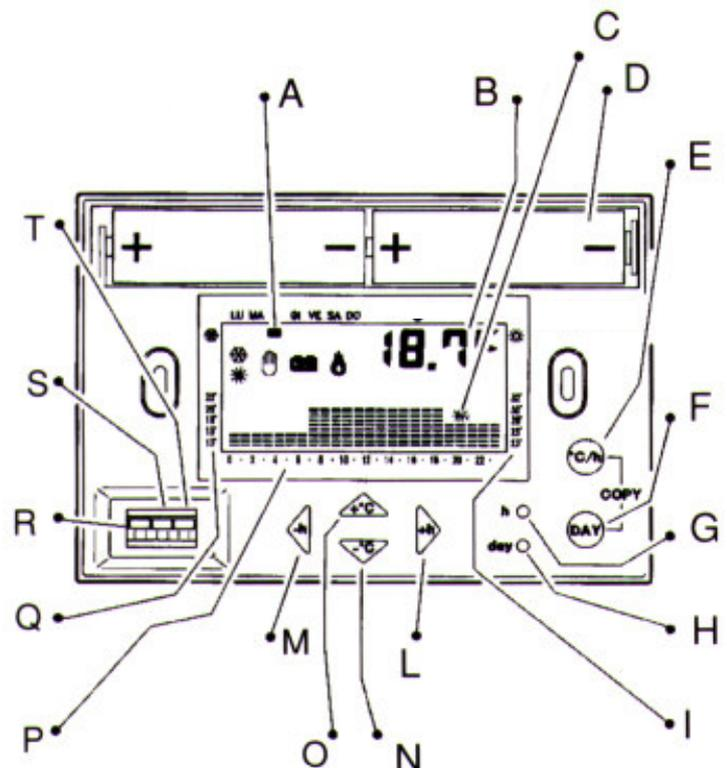

Fig.3
The chronothermostat is provided with two battery run-down thresholds. When the first threshold is overcome, the symbol **BAT** (fig.3) will appear while the appliance will carry on working as usual. When the second threshold is reached, the chronothermostat completely stops its thermoregulation functions while the display will only show the time, the day and the battery run-down symbol (**BAT**) flashing. During the battery changing operation, data will be kept stored for 10 minutes with the power off.
The main feature of this appliance is the graphic display which shows a diagram comprising 24 columns representing the hours of the day; each column height indicates the temperature programmed for that particular hour. The segment at the top on the left (A in fig.3) moves along the writing directly above to indicate the day concerned by the program. The programmed temperature is displayed at the top on the right (B in fig.3) during programming; while the time and ambient temperature are displayed alternatively by pressing the key °Ch (E in fig.3) during normal operation.
Once the chronothermostat has been correctly installed and powered, switch the selectors (R, S, T in fig.3) to **ON** (activated), **AUT** (automatic operation) and the right season (**WIN** for winter and **SUM** for summer).
To modify the standard program, use the **DAY** key (*F* in fig.3) to move along to the right day and change the daily display using the four centre keys forming a cross; two of these (*L*, *M* in fig.3) move the cursor horizontally along the hour axis, whereas the other two (*N*, *O* in fig.3) vary the set temperature (shown on the numerical display).
- Press the **DAY** key (*F* in fig.3) to move on to the following day and display the stored program (if there is none, the standard display will be shown) which can be modified as previously described.
- Copy the day just programmed into the following one using the **COPY** function (*E* and *F* keys in fig.3 pressed at the same time).
After programming the whole week, you only need to set the hour and the day by pressing the two **h** and **day** hideaway keys (*G* and *H* in fig.3), which can be done with the help of a pointed instrument. The minimal increment of the hour is of a minute to every pressure of the key **h**. Keeping pressed the key **h** the increment becomes of **10 minutes** after at least ten increments of a minute.
From this moment on the chronothermostat starts working regularly and indicates each load input (heating or air conditioning) by lighting the flame symbol on the display (fig.3).
When the *T* selector in the fig.3 is moved to the **MAN** position, the chronothermostat starts operating manually by switching the display off (but keeping the information stored) and lighting the hand symbol (fig.3). From now on, the chronothermostat will function like an ordinary ambient thermostat where the setting is carried out by selecting the temperature using the +°C and -°C keys (*N*, *O* in fig.3). The set temperature, which can be read on the display, will be kept until the manual operation is switched off and the selector is moved back to the **AUT** position (automatic operation mode).
When the *R* selector in fig.3 is positioned to **OFF**, the chronothermostat will only keep the clock function on, and deactivate all other functions.
When the clock needs to be set, bring the selector back to the **ON** position and carry out the required setting by means of the **h** hideaway (key *G* in fig.3).